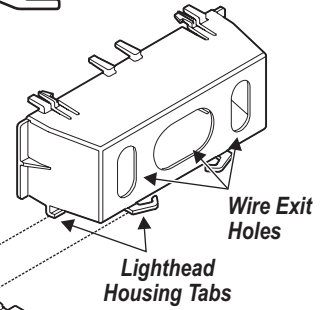

Fig. 2 Endcap & Lighthead Installation
1. Disconnect the unit from power (Fig. 2). Remove the 4 endcap screws, endcap and gasket from the extrusion. If alley lights are present, they must also be unplugged.